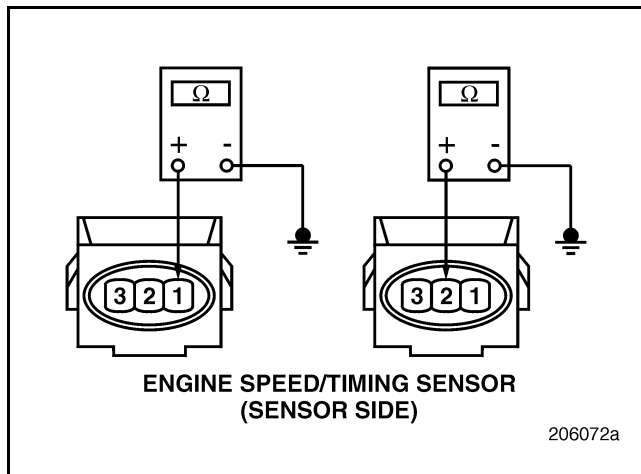

Figure 353
3. On the sensor side of the harness connector, check for continuity between pin 1 and a good ground. Also check for continuity between pin 2 and a good ground (see Figure 353).